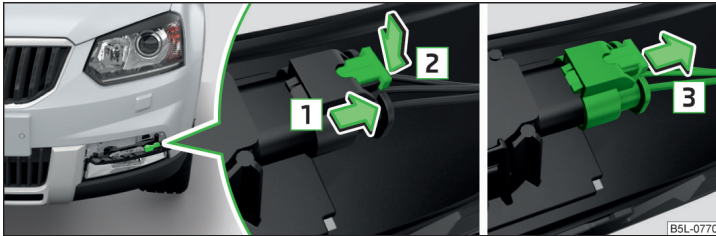

Fig. 201 Remove the plug
- Pull the latch out of the connector in the direction of arrow **1** » Fig. 201.
- Attach the connector on guard carefully » Fig. 201 on page 172¹⁾.